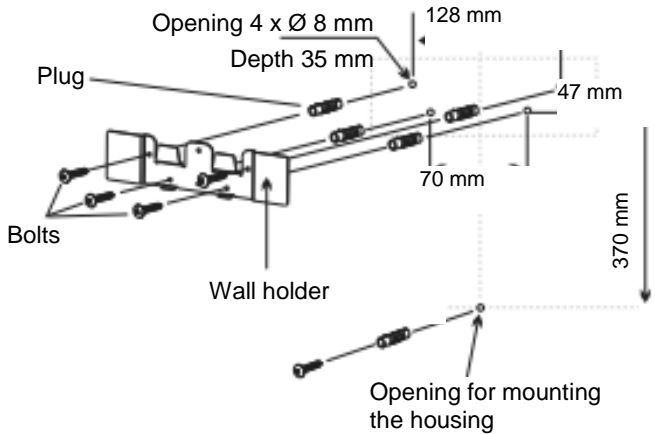

Fig. 3
- Using the attached wall grips, mark on the wall the openings to be drilled as well as the opening to be drilled to mount the housing. Note the information indicated in fig. 3.